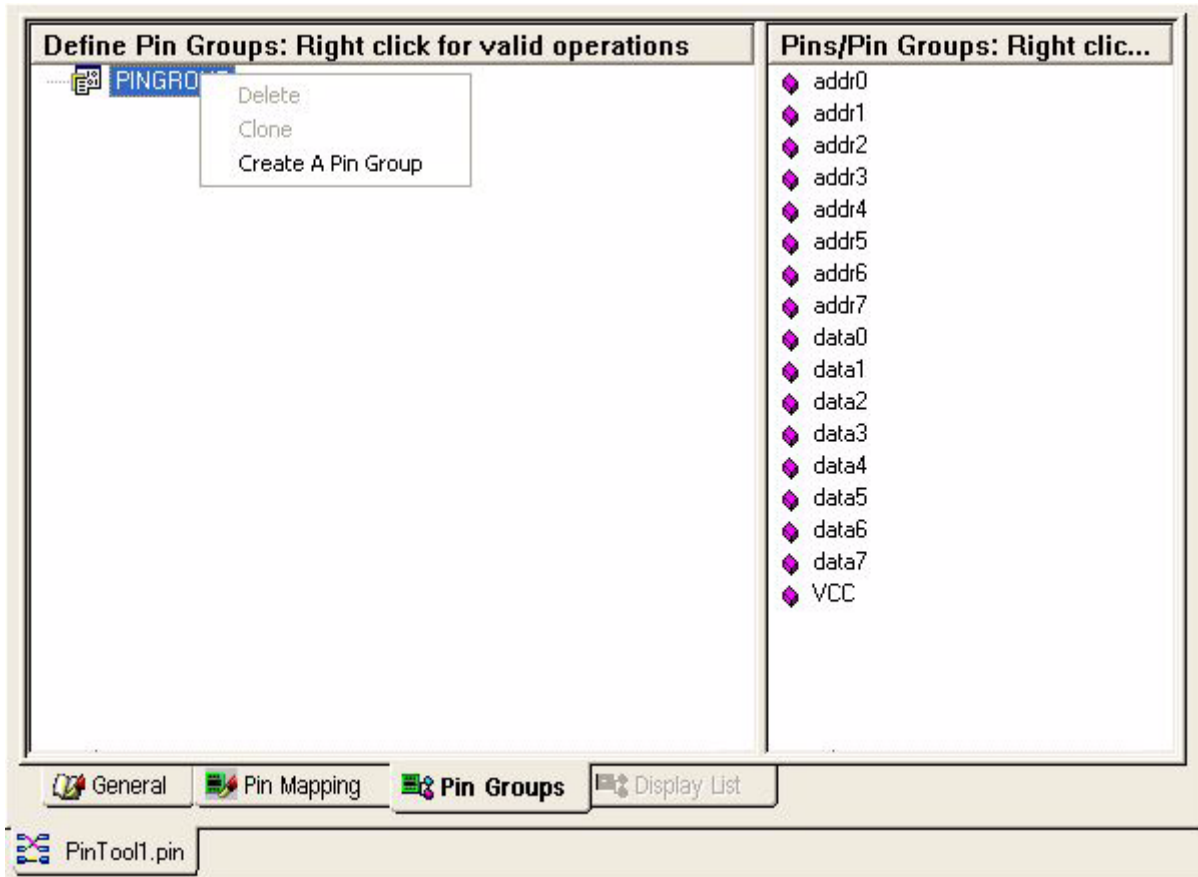

Figure 3-36. Pin Groups Tab
- 1 Selecting the Pin Group  tab displays its tab (similar to Figure 3-36) configured using the mapping that was done on the Pin Mapping  tab.